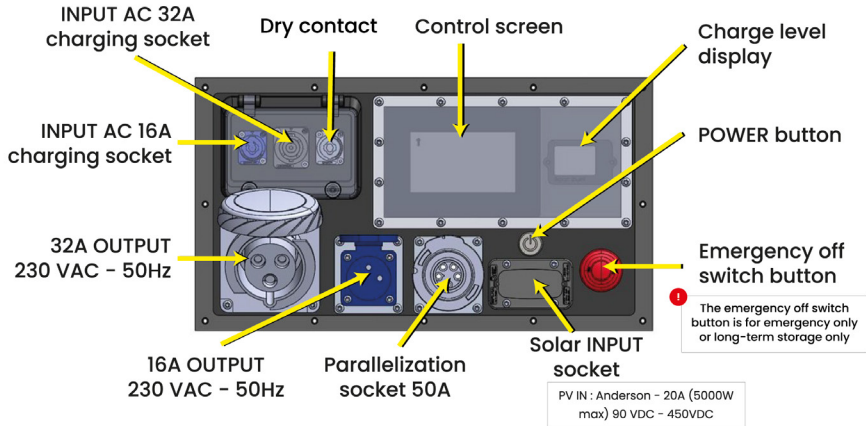
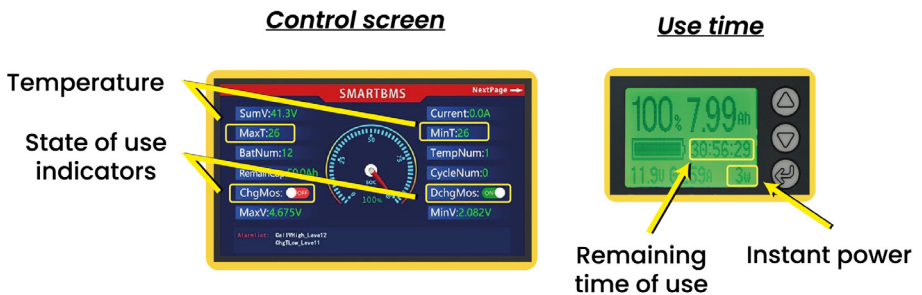

Figure 1: Sockets layout
Figure 2: Zoom on the screen
- The photovoltaic (PV) input is a maximum of 5500 W (MPPT from 90 to 450 VDC – 500 Voc) (*see §II.2 'Technical characteristics of the device'*).
- When not in use, the device must be switched off by pressing the 'POWER' button. (*see §III.3 'Switching off the appliance' & §II.3 Figure 1 and 2*).
- The battery isolating switch also marked 'Emergency off switch' on the device (*see §II.3 Figure 1*) must only be used in the following cases :
The man-machine interface is located mainly on the rear of the device (see Figure 1). Some functions, such as circuit breakers or paralleling sockets, are located on the side panels (see Figure 2).
For the location of the buttons, refer to III.3 Figure 1.
First connect the cable to the 'INPUT AC' charging port on the device, then connect the plug to the mains (e.g. 230VAC, 16A or 32A socket) using only the cable supplied with the device (see II.3. Figure 1).
- 3) First connect the Anderson solar panel socket to the device (see III.3. Figure 1) and then connect your photovoltaic installation